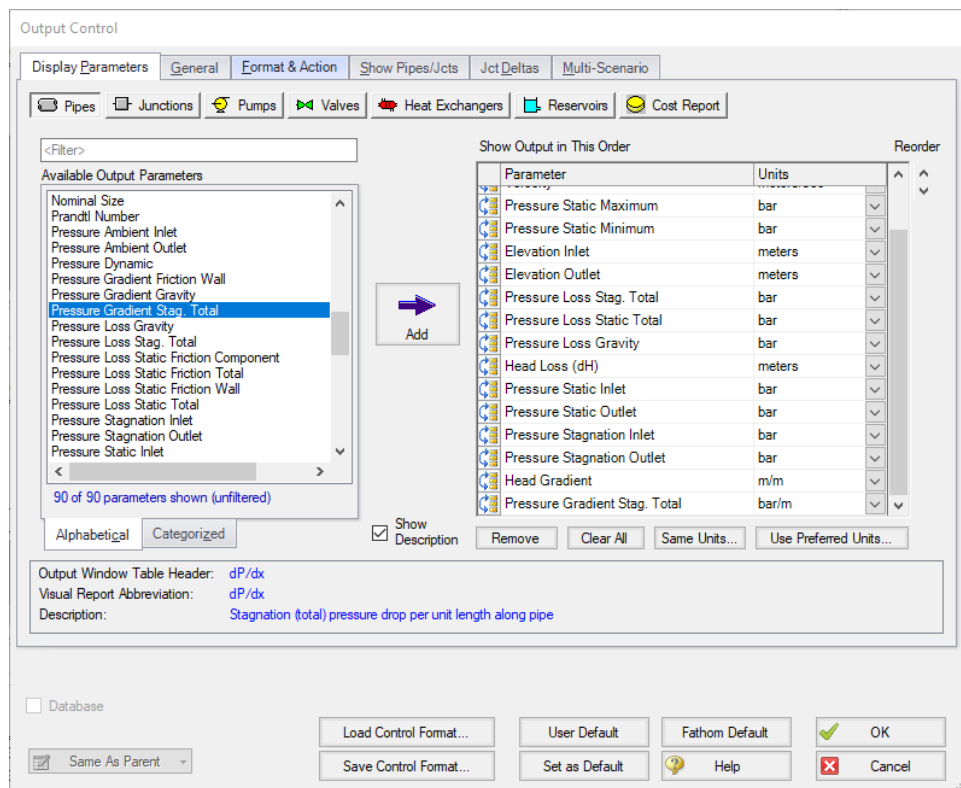

Figure 6: The Output Control window Pipes report
2. In the Pipes section choose **Head Gradient** and add it to shown output. Then change its units to m/m. Head gradient is the same thing as *Jm*. See Figure 6.